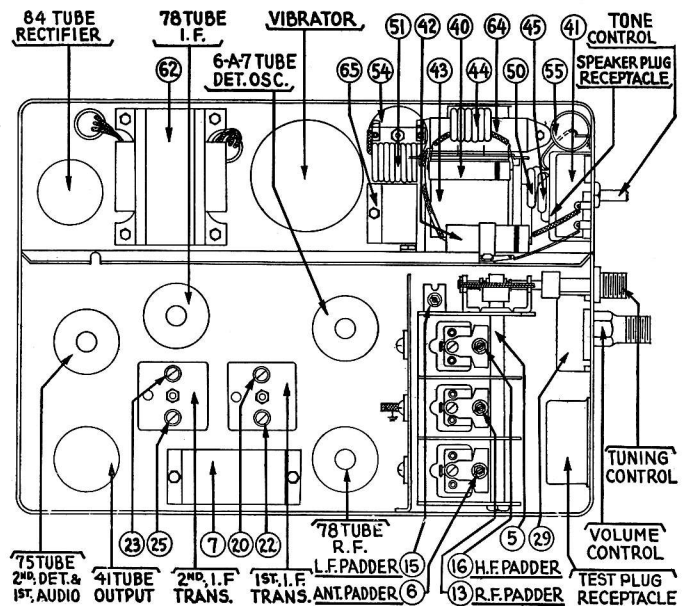

FIGURE 2 — FT9 Top View
Both the primary and the secondary padders are placed side by side in the top of the transformer shield can. The adjusting screws are accessible thru the holes in the top of the shield. (See Fig. 2).
Adjust the secondary screw padder (25) on the second I. F. transformer for maximum reading on the output meter. Then adjust the primary screw padder (23) for maximum reading. (See Fig. 2 for location of padders).
Connect the generator lead to the grid cap of the 6A7 tube in series with a .1 mfd. condenser. Adjust the secondary screw padder (20) on the first I. F. transformer for maximum reading on the output meter. Then adjust the primary screw padder (20) for maximum reading. (See Figure 2 for location of padders).